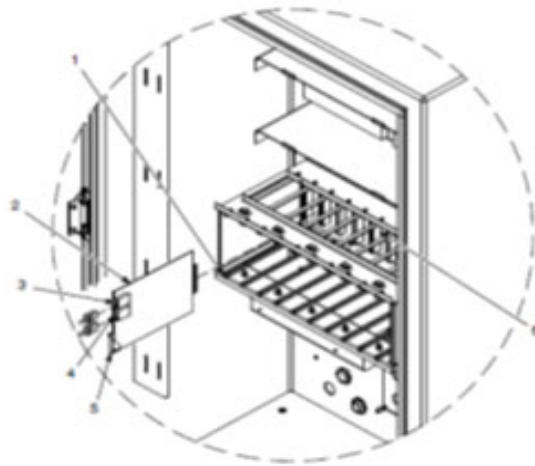

Figure 55 **Gun Control Card Replacement**
CAUTION: The gun control cards are electrostatic sensitive devices (ESD). To prevent damage to the cards when handling them, wear a grounding wrist strap connected to the Spectrum^{HD} enclosure or other ground. Handle the cards only by their top and bottom edges. See Figure 55 – Gun KV cards (2) are installed in the card cage from left to right. Each card controls two guns: the bottom receptacle on the card is the odd gun number; the top receptacle the even gun number. To remove a card, unplug the gun harnesses from the card receptacles (3 and 4), pull down the locking tab (5), then pull the card out of the card cage. To install a new card, slide the card into the slots in the card cage and seat the card's finger board firmly into the connector slot on the back-plane (6). Push the locking tab up to lock the card into the card cage. Connect the gun harnesses to the card receptacles.